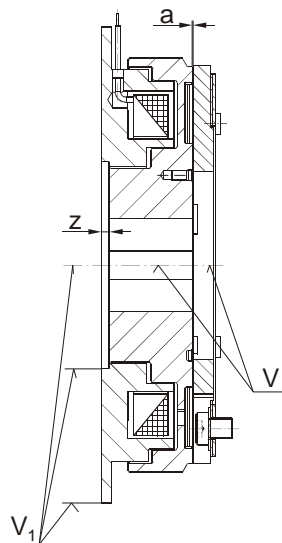

Fig. 6
- Keep to dimension "z", Table 1 and Fig. 6.